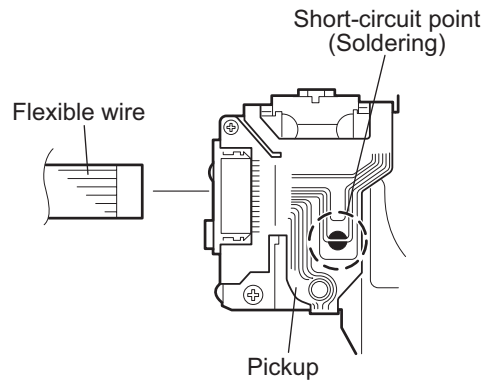

Fig.4
- (2) From the both and rear sides of the main body, remove the four screws **D** attaching the top chassis assembly to the bottom chassis assembly. (See Figs.4 to 6.)